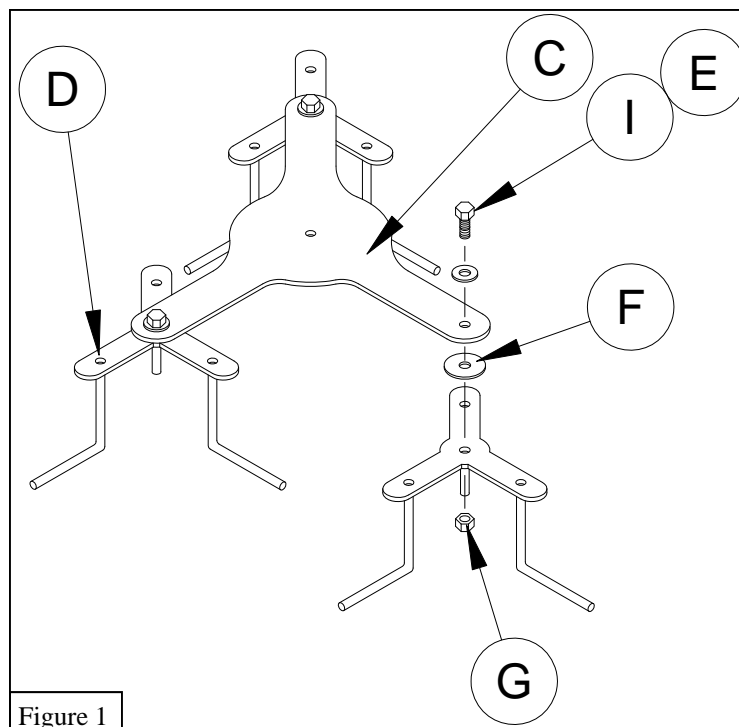

Figure 1
1. Using a 1/2" x 1" Hex Bolt (E), 1/2" Flat Washer (I), Plastic Washer (F), and a 1/2" Nylock Nut (G) assemble the Net Winding Racks (D) to the 3 Net Carousel (C). See Figure 1.